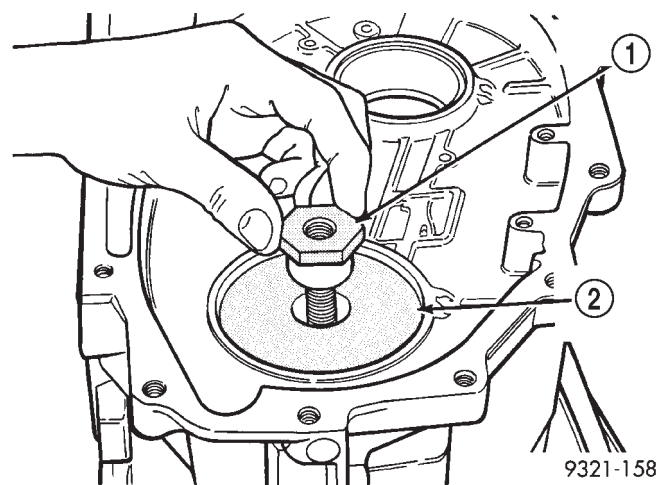

Fig. 394 Installing Centering Nut
(6) Install centering nut Tool 6549-5 as shown in (Fig. 394).
(7) Hand tighten centering nut until all play in the tool has been removed.